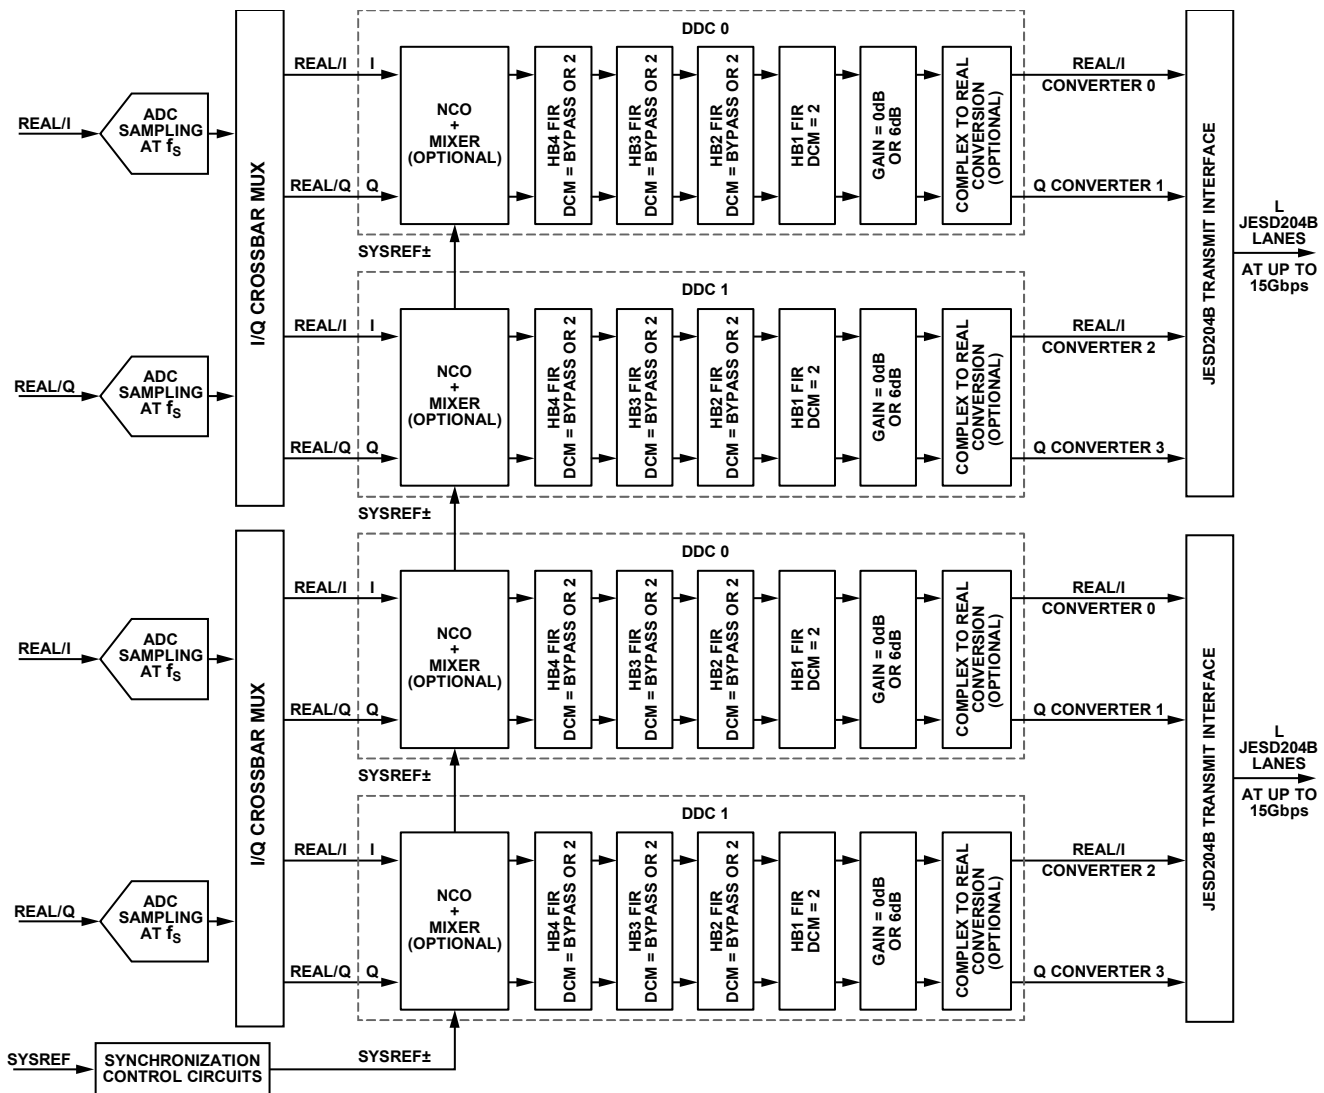

Figure 99. Two ADC + Four DDC Mode in Each Pair
The chip application mode is DDC mode (see Figure 99) with the following characteristics:
- Chip application mode = two DDC mode (see Figure 99)